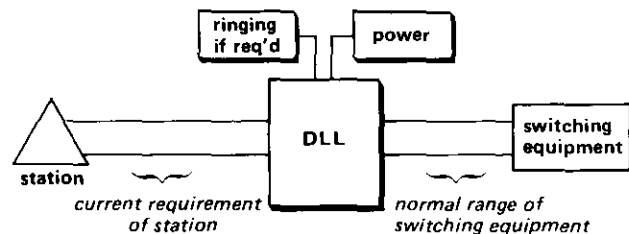

figure 3. Single DLL range limits
2.06 When a single 7501 is used (see figure 3), the maximum distance from the station to the 7501 depends upon the current requirements of the station. The maximum distance from the 7501 to the switching equipment depends upon the range of the switching equipment.